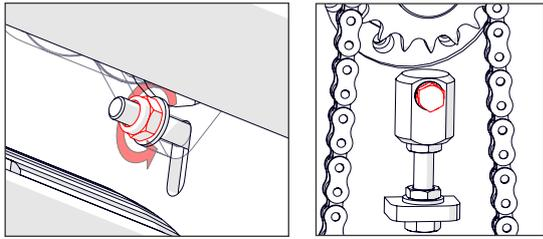

Fig. 11C - Loosen slightly the tensioner block/motor nut.
4. Loosen slightly the central nut supporting the tensioner block/motor [2 x 13 mm spanner] (Fig. 11C).